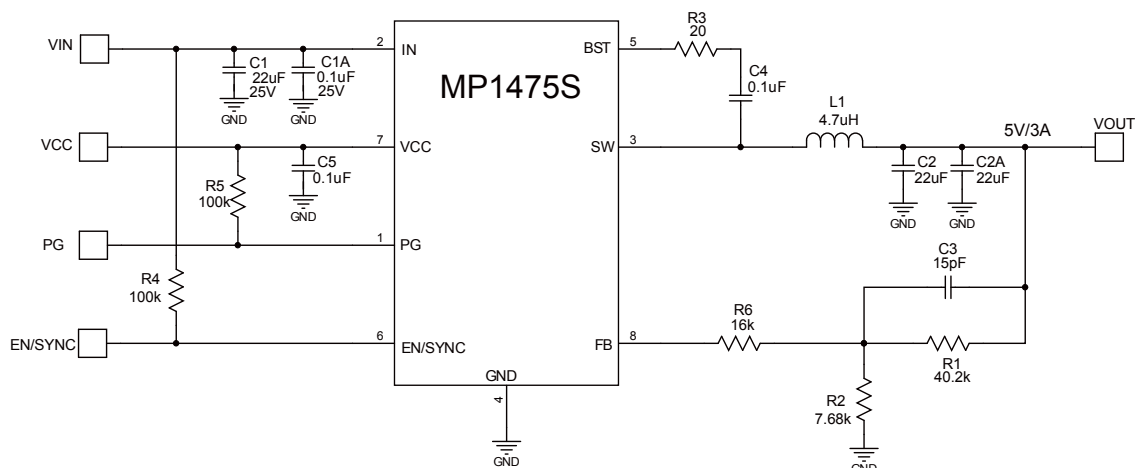

Figure 10. 12V_{IN}, 5V/3A Output
- 9) The recommended layout is based on Figure 10 in the “Typical Application Circuits” section on page 17.